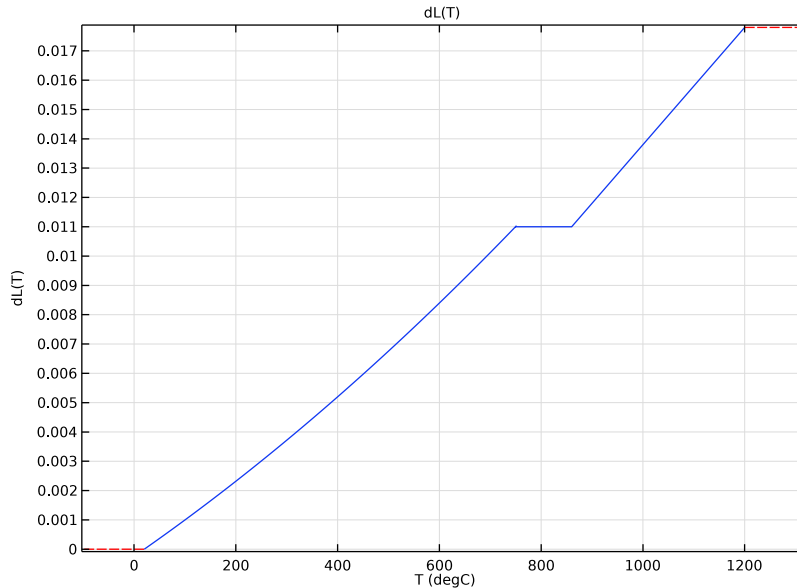

Figure 1: Temperature dependent thermal strain function.
The modeled geometry is a cube with side length of 100 mm. The temperature in the block is homogeneous and prescribed. The thermal strain function  $dL$  (Figure 1) is given in (Ref. 2).
- 7 Click  **Plot**. Compare with Figure 1.